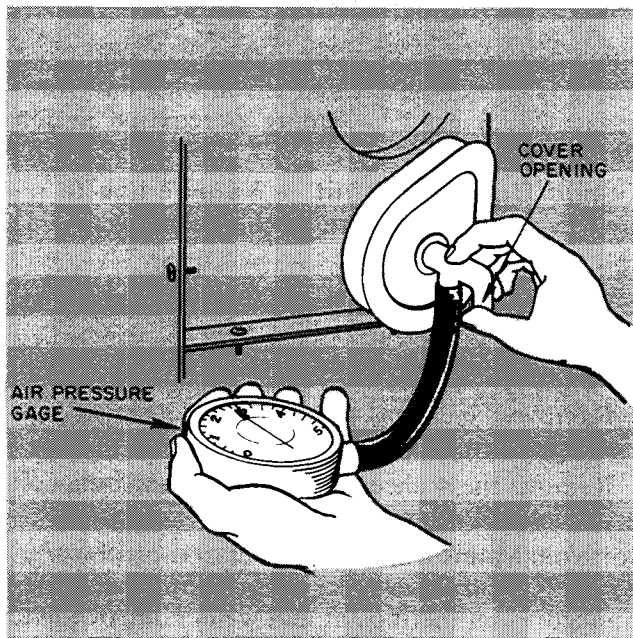

Fig. 4 — Measuring Plenum Pressure
5. Insufficient plenum pressure.	5. Measure plenum pressure (Fig. 4); should be no less than 1.5 in. wg.